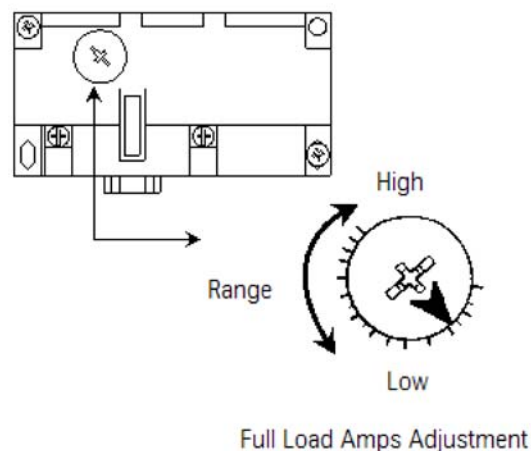

Figure 5 - ESP100 Overload Adjustment
2. Set the full load amps adjustment dial to the overload current setting from Step 1. See Figure 5.